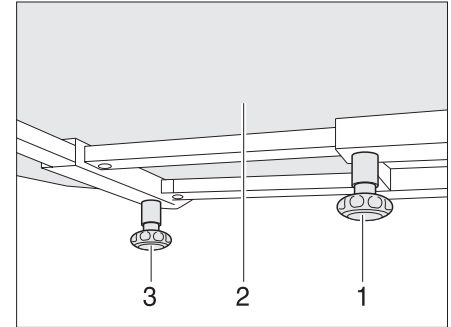

Fig. 55 Fixed table
- ▶ Loosen the knurled screw (Fig. 55,1).
- ▶ Move the table-top (Fig. 55,2) to the desired position.
- ▶ Loosen the knurled screw (Fig. 55,3).